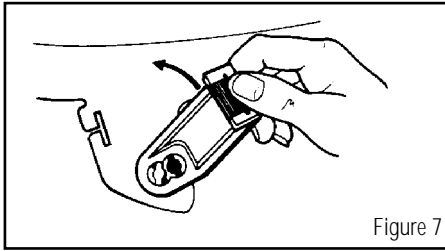

Figure 7
1. Rotate hanger key 90° in either direction, until hole in hanger key aligns with post on headband. Pull key away from headband. (Figure 7)
3. Rotate hanger key 90° toward head-band until key locks in place. (Figure 7)